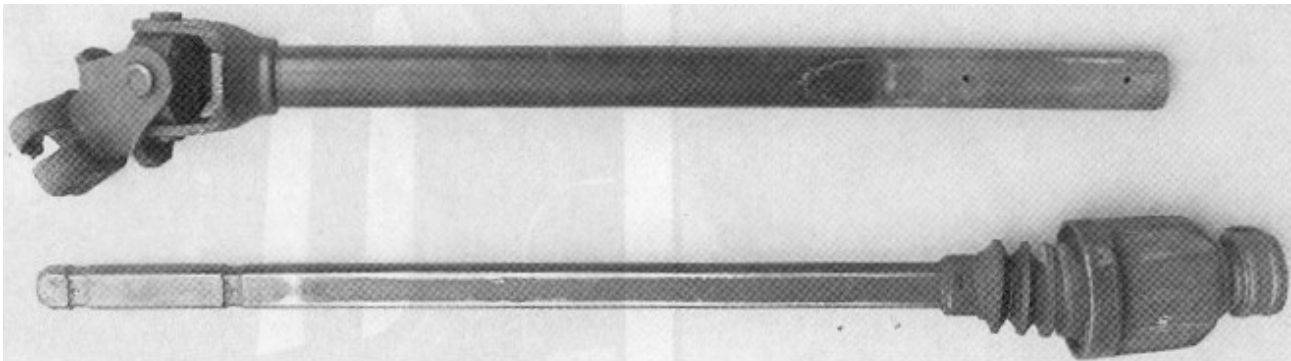

Figure 2
1A: The shaft is telescoping from the factory (so it can collapse in case of a collision). To make it gain length or extend the two halves must have the plastic locking device removed. The plastic must be melted out by heating the shafts. If you choose this method (A), remove the entire shaft from the Jeep™. Use a torch and slightly heat the two halves until the plastic is melted out and the two shafts will slide apart. Do this in a well ventilated area cause the meeting plastic stinks! Clean them with a wire brush, and paint them. Do not reinstall the steering shaft at this time. See figure 2.